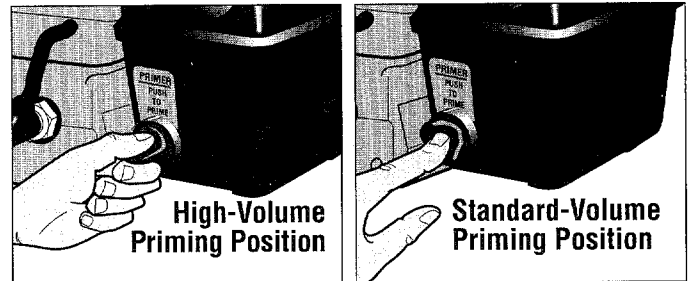

Figure 8: Fuel primer bulb.
**High-Volume Priming** (see Figure 8) is used when starting a new engine for the first time, after running out of fuel or after long storage. Use your thumb and forefinger to squeeze the sides of the primer bulb in line with the colored rib mark. As fuel enters the priming system, the priming action will feel more firm. Squeeze the primer bulb 6 times. (This process removes air from the priming system.)
**Standard-Volume Priming** (see Figure 8) is used if the engine is cool or has been in storage briefly, but still has fuel in the fuel tank. To perform Standard-Volume Priming, use your forefinger to push in the bulb twice if above 55°F, or three times if below 55°F.
Use this priming method to start a new engine for the first time, after running out of gas, or after extended storage. Prime the engine using High-Volume priming. See Figure 8. Use thumb and forefinger to squeeze side of primer bulb that is in line with the light-colored rib on the primer body. As fuel enters the priming system, the priming action will feel more firm. Squeeze the primer bulb 6 times. This process removes air from the priming system.
To prime the engine after it has been sitting idle or has been in brief storage and has fuel in the tank, use the Standard Volume method (Figure 8). Push in top of primer bulb twice if above 55°F, or three times if below 55°F.